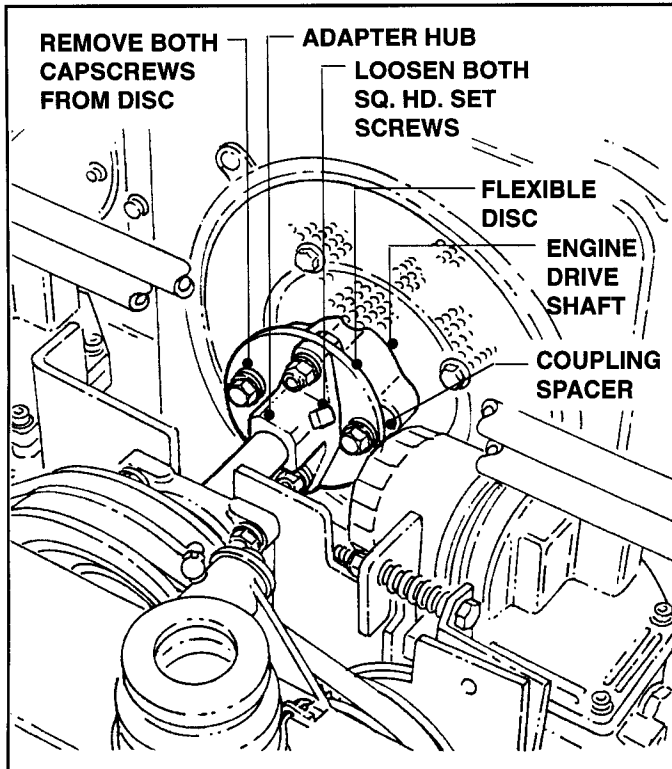

FIGURE 4.9
- A. Loosen both Set Screws on the Adapter Hub. See Figure 4.9.
- A. Loosely attach NEW Flexible Disc to Engine Drive Shaft with two (2) Coupling Spacers, 5/16 x 1-1/2" Hex Hd. Cap Screws, Lock Washers and Flat Washers. Refer to Figures 4.9 and 4.10.